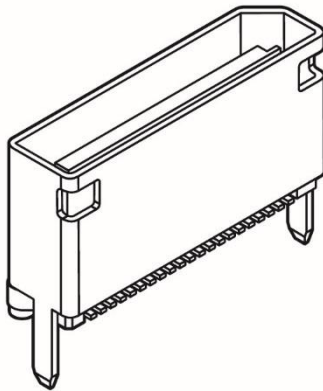

Figure 4-1. Isometric View of the x4 Fixed Host Board-side Vertical Connector
- The x4 Fixed Host Board-side Connectors (see Figure 4-1 and Figure 4-5) are 42-contact SMT connectors with metal shells for robustness and for latching and are used for both external and internal applications.
The x4 fixed host board-side connector are available in vertical (see Figure 4-1) and right-angle (see Figure 4-6) configurations. Both configurations: